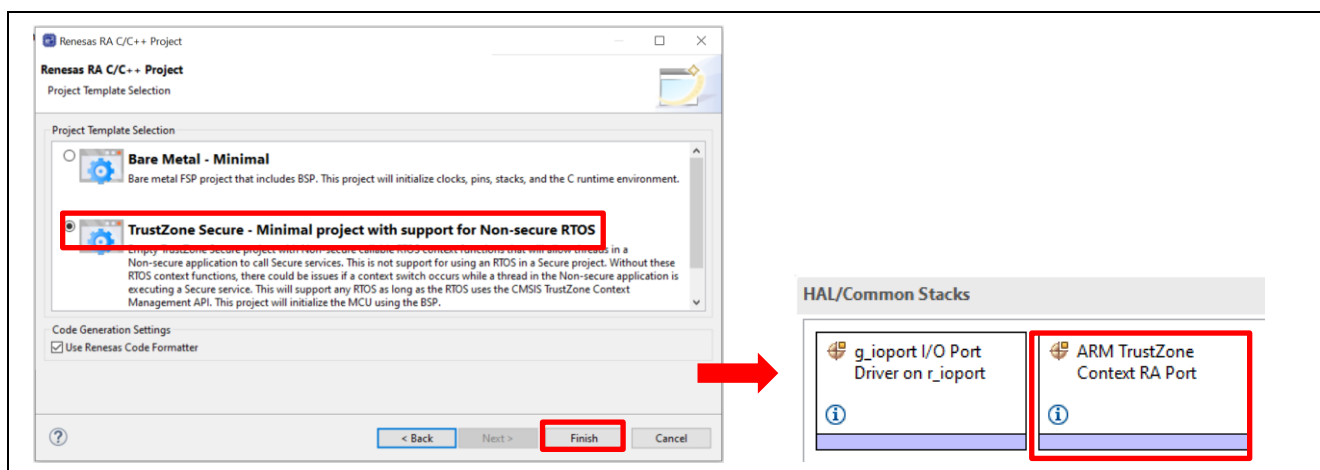

Figure 25. Adding the TrustZone Context RA Port
- Secure projects will add the required RTOS context in the Secure region for the Thread that needs to access the NSC APIs in an RTOS-enabled project. When this project type is selected, the *Arm® TrustZone® Context RA Port* will be added, as shown in Figure 25.